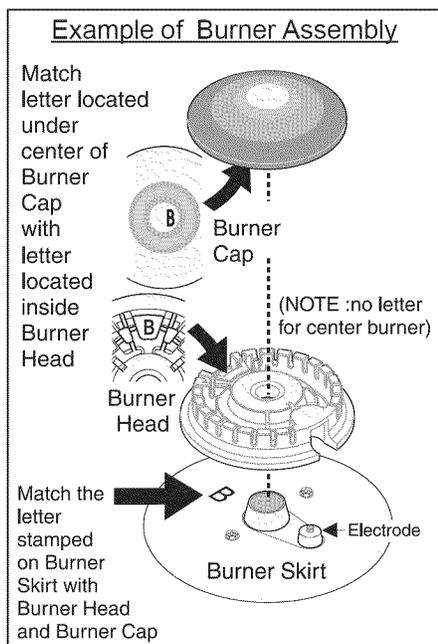

Fig. 4
- Replace all the burner heads & caps. Match the letter located under center of burner cap with letters located inside the burner heads (center position is not marked - See Figs. 4 & 5).
- Match the letter stamped on the burner skirt with the burner head and burner cap (center position is not marked). Each of the burner heads **MUST** have a burner cap installed to insure proper ignition and gas flame size. Note: The burner electrodes must be located properly in slot of each burner head (See Fig. 4).